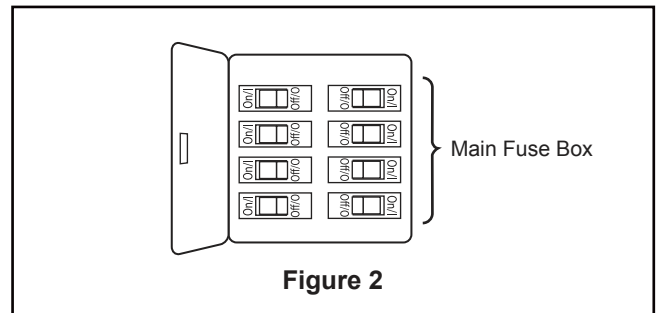

Figure 2
To avoid possible electrical shock, be sure electricity is turned off at the main fuse box before wiring. (Figure 2)
2. Assemble the upper housing to ceiling plate assembly using the previously removed screws and securely tighten all four screws. (Figure 2)